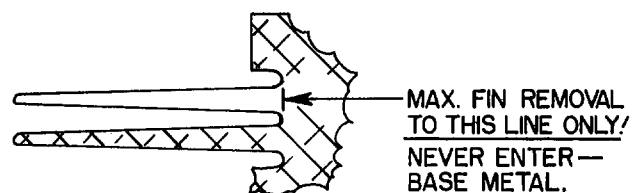

Figure 6-10. Maximum Fin Removal
(1) Stop drilling, a 3/16 inch diameter hole through the end of the crack is permissible providing the end of the crack is at least 1/4 inch from the base of the metal.
(2) Fin removal to eliminate crack and reduce vibrating mass is permitted provided:
- Maximum removal is in accordance with figure 6-10.